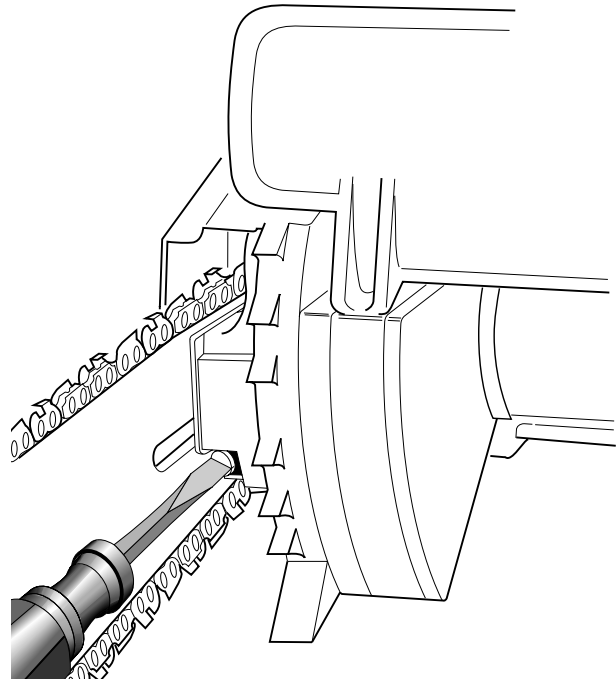

Figure 14 - Turning Adjusting Screw
2. Turn adjusting screw clockwise until all slack is out of chain (see Figure 14).